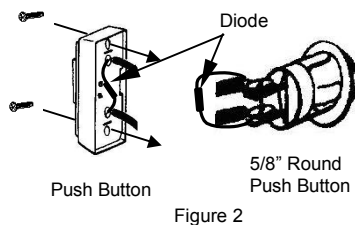

Figure 2
Install the Front Doorbell Pushbutton (Refer to Figure 2)
A small electrical component called a 'diode' is supplied with the chime. Install the diode across the terminal screws of the Front Doorbell pushbutton as shown in Figure 2 & 3. Without this diode the chime will not work. Connect the wires to the Front Doorbell Pushbutton. Install the Front Doorbell Pushbutton in the desired location using the screws provided.
Install the Back Doorbell Pushbutton (Refer to Figure 2)
- A small electrical component called a 'diode' is supplied with the chime. Install the diode across the terminal screws of the Front Doorbell pushbutton as shown in Figure 2 & 3. Without this diode the chime will not work. Connect the wires to the Front Doorbell Pushbutton. Install the Front Doorbell Pushbutton in the desired location using the screws provided.